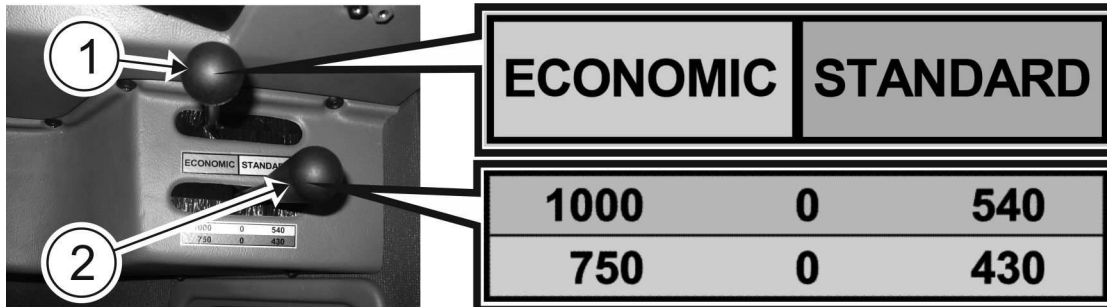

FIGURE 3.33 Levers for engaging proper PTO rotation speed: 430, 540, 750 or 1000 rpm.
- using lever **1 (Figure 3.33)**, engage appropriate PTO rotation speed range 540/1000 rpm (grey zone on pictogram next to the lever) or 430/750 rpm (green zone on pictogram next to the lever)
- using lever **2 (Figure 3.33)** select the required PTO rotation speed from selected PTO rotation speed range
IMPORTANT: Central setting of lever 2 (Figure 3.33) is the neutral position. If the switch is left in this position, PTO drive is disengaged. Do not use PTO speed selection lever 2 (FIGURE 3.33) for engaging or disengaging PTO drive.